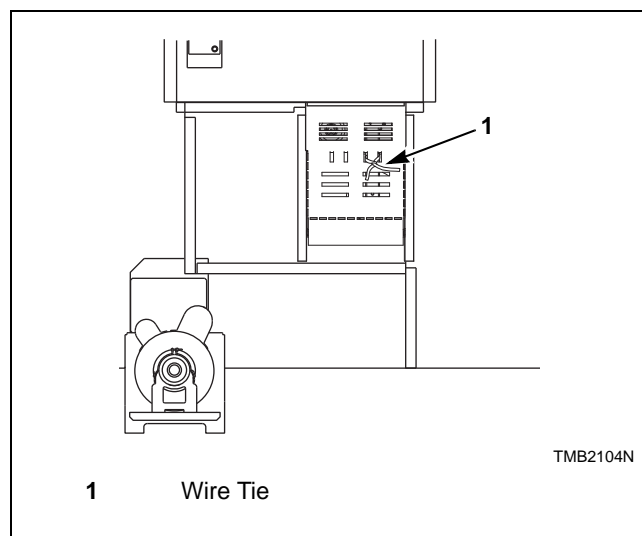

Figure 12
3. Remove and discard wire tie from the airflow switch so it can swing freely. Refer to *Figure 12*.